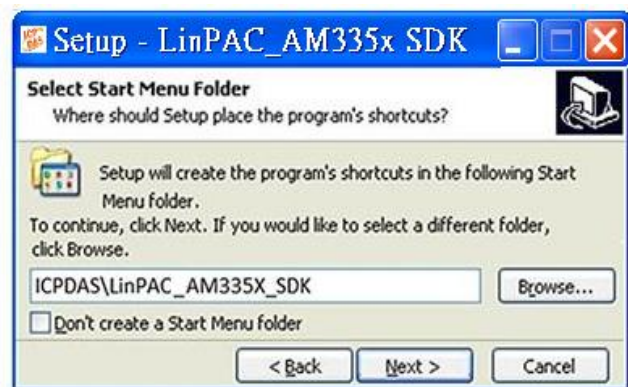

Figure 1.3.2-10.
4. The LinPAC_AM335x SDK files will be extracted and installed and a progress bar will be displayed to indicate the status, refer to Figure 1.3.2-11.